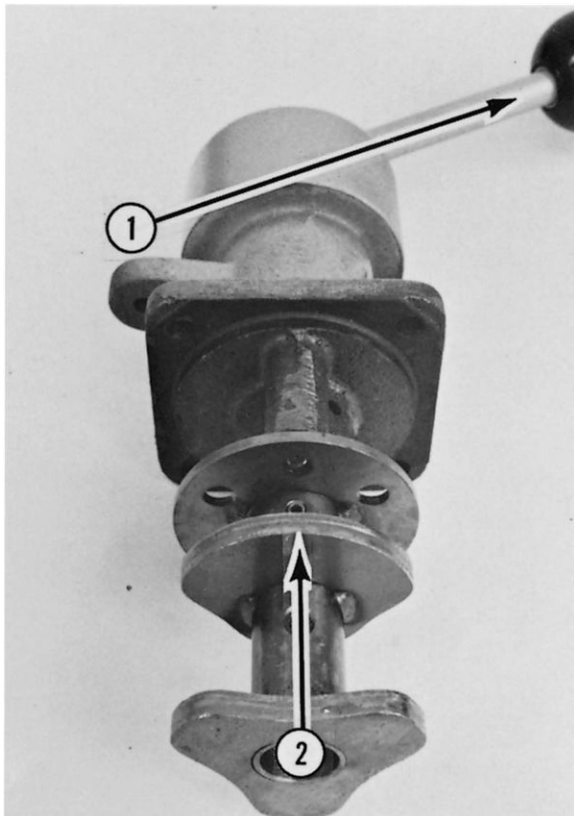

Fig. 11-18
E. Install the cam as shown in Fig. 11-18 and secure with the rollpin. [Handle (1, Fig. 11-18) to the right and the high side of the cam (2, Fig. 11-18) facing up.]